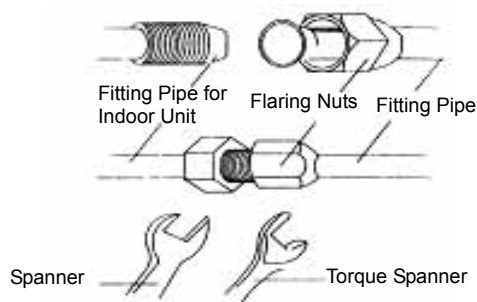

Fig.38
2. Use torque spanner to tighten the flared end nut until the spanner clatters (Figure 38).